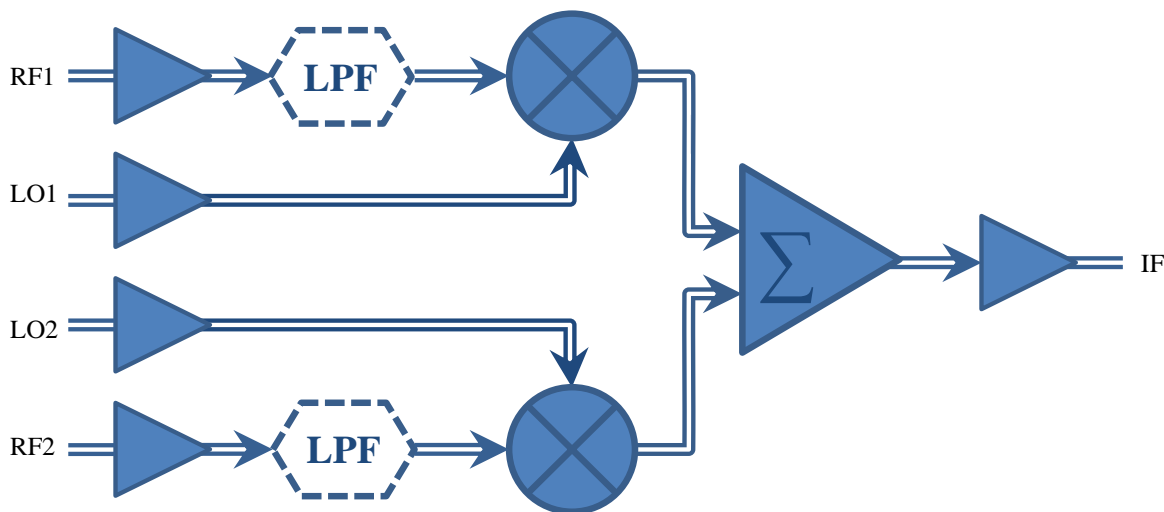

Fig. 1. Functional Block Diagram.
I/Q modulators are critical components in the signal chain of modern digital transmitters. I/Q modulators perform the frequency translation that moves the base-band signal to the desired location in the RF spectrum. An I/Q modulator shown in Fig. 1 accepts 2 local oscillator inputs (LO1, LO2) representing in-phase (I) and quadrature (Q) components separated by 90°. These two signals are combined with I and Q baseband signals (RF1, RF2) in two separate mixers. The outputs from both mixers are then summed to provide a modulated carrier (IF).